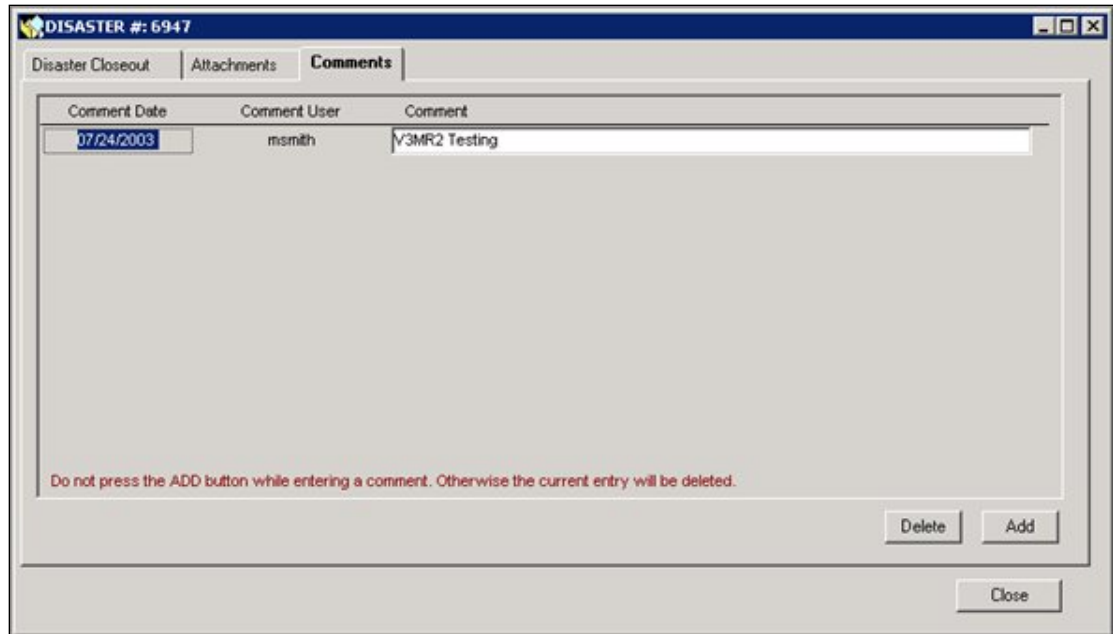

Figure 13-9: Mitigation >Disaster >Closeout >Comments Tab
11. Click the **Comments** tab to add any comments to the program closeout (Figure 13-9).